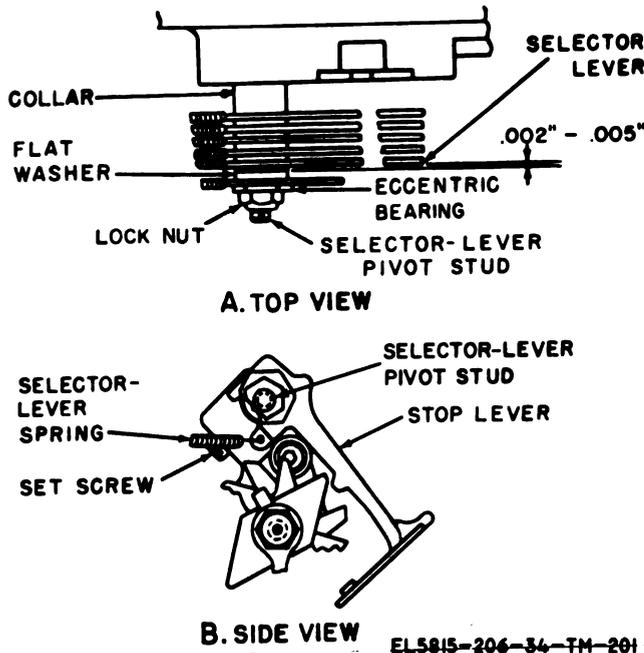

Figure 3-129. Selector-lever adjustment.
a. Requirement. There should be a 0.002- to 0.005-inch clearance between the flat washer and the first selector lever (A, fig. 3-129).
b. Adjustment. Loosen the setscrew (B, fig. 3-129) in the casting; slide the selector-lever pivot stud in or out to meet the requirement; and tighten the setscrew.